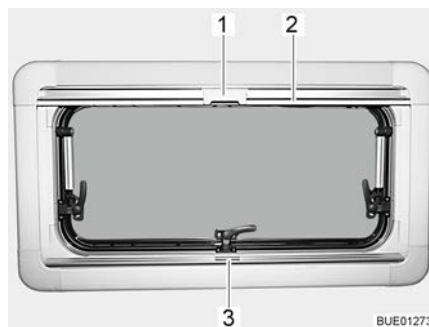
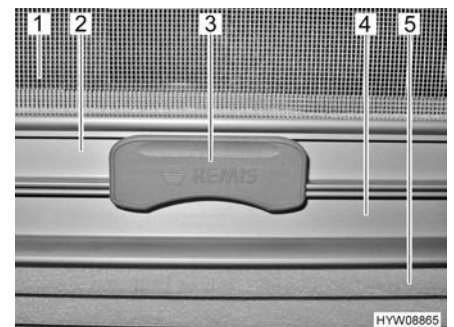

Fig. 65 Hinged window
Fig. 66 Catch
The Roman shade (Fig. 66,5) is located in the lower blind box.
- Seize the Roman shade by the centre of the holding bar (Fig. 65,3 and Fig. 66,4), pull it from the bottom to the top and release it at the desired height. The Roman shade will stay at this height.
Insect screen The insect screen (Fig. 66,1) is located in the upper blind box.
- Pull the insect screen down by the holding bar (Fig. 65,2 and Fig. 66,2), until it touches the holding bar of the Roman shade (Fig. 66,4).
- Clip the catch (Fig. 65,1 and Fig. 66,3) on the insect screen into the holding bar of the Roman shade. When the catch is locked, the Roman shade and the insect screen can be adjusted together.
- Push the catch (Fig. 66,3) on the insect screen upward.
- Move the insect screen back slowly on the holding bar (Fig. 65,2).